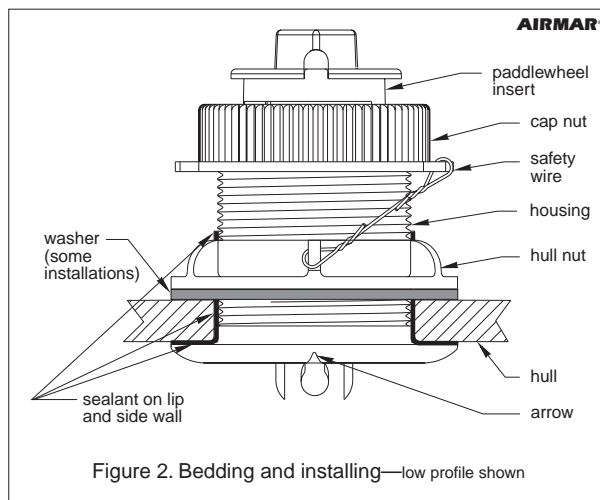

Figure 2. Bedding and installing—low profile shown
Apply a 2mm (1/16") thick layer of marine sealant around the lip of the housing that contacts the hull and up the sidewall of the housing. The sealant *must* extend 6mm (1/4") higher than the combined thickness of the hull, any washer(s), and the hull nut (see Figure 2). This will ensure there is sealant in the threads to seal the hull and hold the hull nut securely in place.
1. From outside the hull, push the housing into the mounting hole using a twisting motion to squeeze out excess sealant. *Align the arrow on the lip of the housing to point forward toward the bow* (see Figure 2). If the sensor is not installed on the centerline of the boat, angle the housing slightly toward the centerline to align it with the water flow.
- Attach the safety wire to one eye in the hull nut. Lead the wire in a counterclockwise direction and thread it through one eye in the cap nut. Twist the end securely to the wire (see Figure 2).
When the boat is placed in the water, **immediately** check around the thru-hull sensor for leaks. Note that very small leaks may not be readily observed. It is best not to leave the boat in the water for more than 3 hours before checking it again. If there is a small leak, there may be considerable bilge water accumulation after 24 hours. *If a leak is observed, repeat "Bedding" and "Installing" immediately (see Figure 2).*
2. Remove the safety wire from the cap nut (see Figure 2).
4. Reattach the safety wire to the cap nut (see Figure 2).